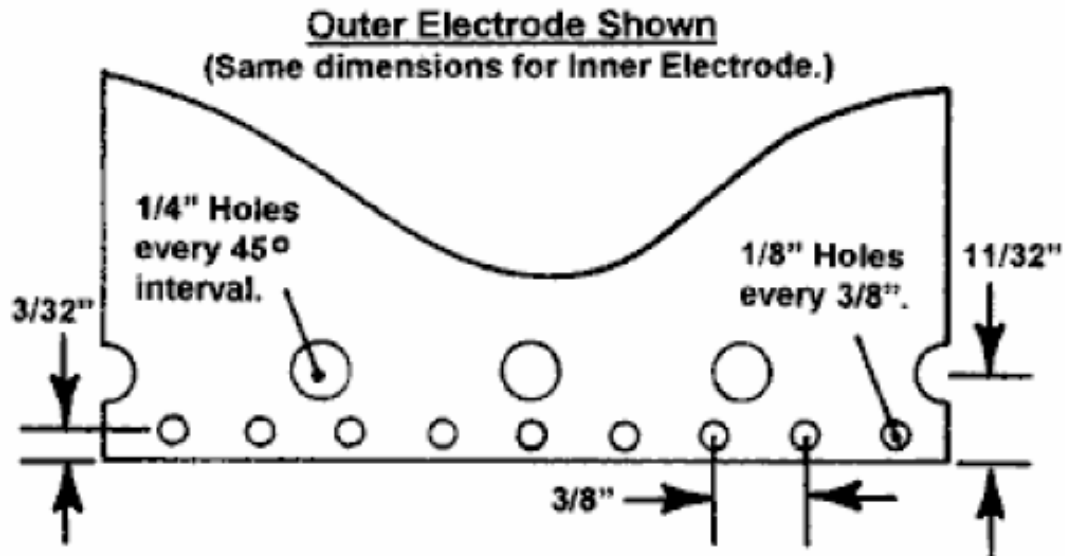

Figure 8: Electrode Details
6. Referring to the following Figure 8, drill eight (8) 1/4" holes, spaced at 45 degree intervals, around the diameter of one end of the outer electrode tube. Locate the hole centers 11/32" from the tube edge. Clamp a large diameter wood dowel or rod in a vise to back up the electrode while drilling. Deburr the holes after drilling.
7. Repeat the procedure of step 6 to drill eight (8)  $\frac{1}{4}$ " holes at the same distance from the end of the inner electrode tube.
8. Referring again to Figure 8, drill  $\frac{1}{8}$ " holes around the end of the outer electrode closest to the  $\frac{1}{4}$ " holes. Locate the hole centers  $\frac{3}{32}$ " from the tube edge, with hole centers spaced at  $\frac{3}{8}$ " intervals around the entire diameter. Deburr the holes after drilling.
10. Referring to Figure 8, cut two (2) 3" rod lengths from  $\frac{3}{32}$ " diameter bare stainless steel welding rod, alloy T304. Using a file, square off and deburr the rod ends.
11. Referring to Figure 8, solder one of the rods to the outside surface of the outer electrode. Position the rod parallel to the length of the electrode with 2" protruding past the end of the tube. Use silver-bearing solder and flux appropriate for soldering stainless steel.